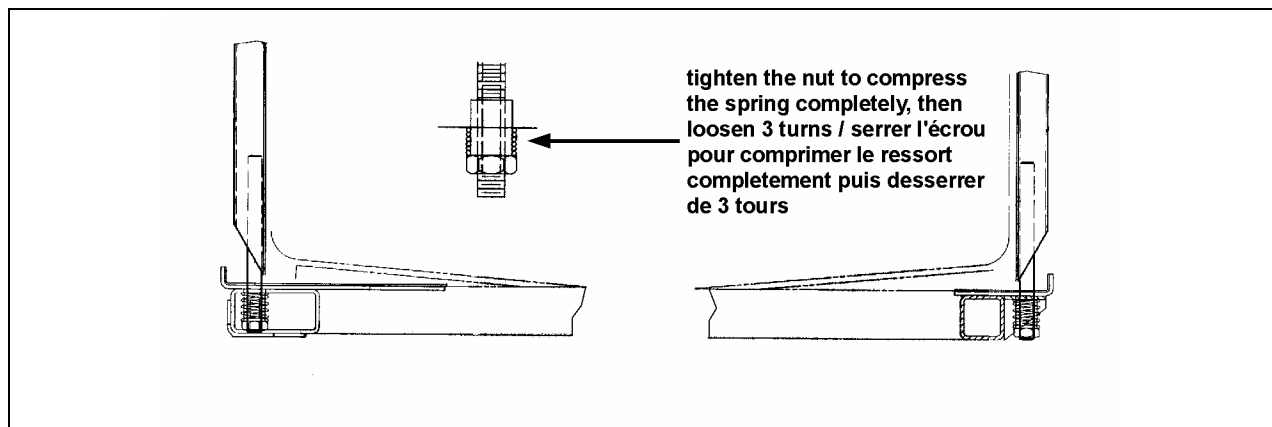

FIGURE 5: RETAINERS BOLTING ON TANK SUPPORT
11. Fix the new retainers on the tank support. Tighten the nuts to compress the spring completely and then loosen 3 turns (figure 5).